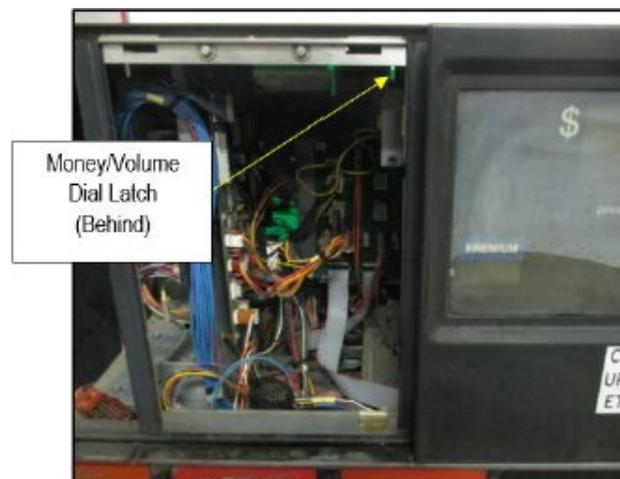
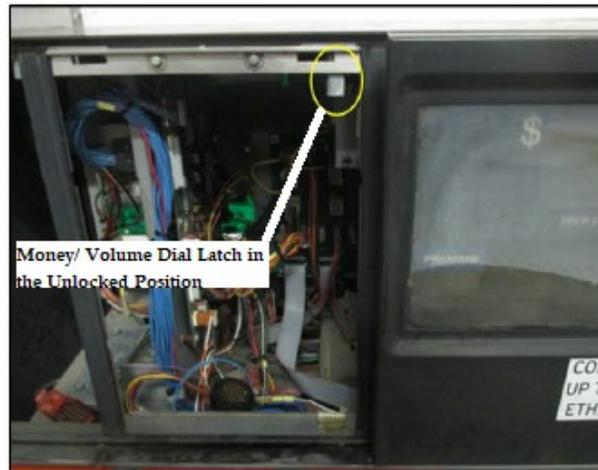

Figure 53
Figure 54
- a) "Unlock" the Money/Volume Display Dial by pulling the lock latch to the left (towards the left-side of the dispenser) completely. The lock latch is located behind the upper left-hand side of the Money/Volume Display Dial. Use the following pictures as a visual aid to help locate and unlock the latch. See Figure 53 and Figure 54.